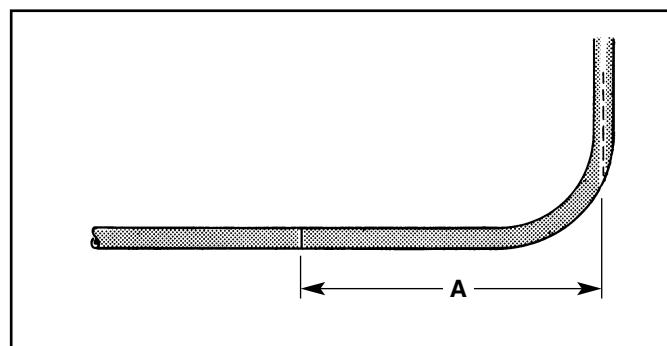

Figure 5
10. If more than one bend is required, measure from center line of the preceding bent leg and mark tube to blueprint dimension (See *Figure 5*). Position tube in bender as outlined in Step 6.